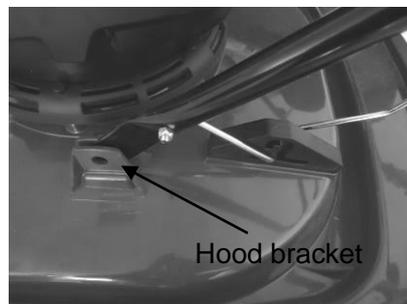

Fig. 2B
2. Maintaining the hook in the centre slot of the guide, turn the lower handle clockwise to place both legs of the lower handle in a position between the hood brackets. (Fig. 2B)